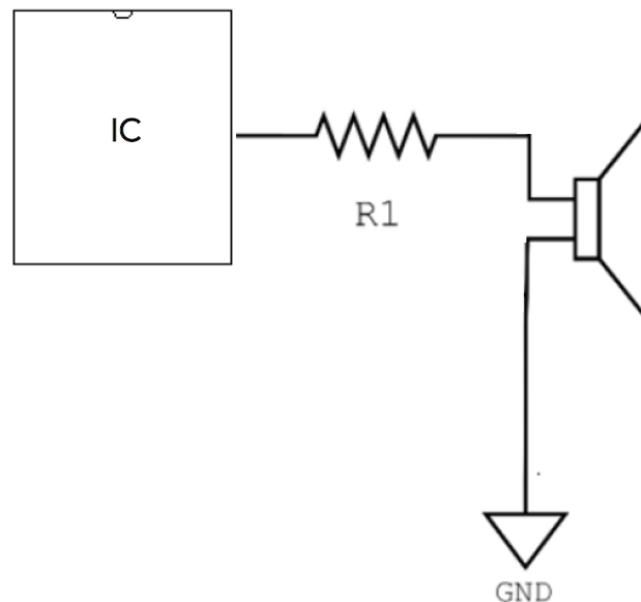

Figure4: Drive Circuit for Piezoelectric transducer using an IC
Due to its high impedance and piezoelectric property, a piezoelectric buzzer can also be directly driven from an integrated circuit (IC) (shown in Figure 4). However, for stable sound production and IC protection, it is advisable to insert a resistor in series between the IC output and the piezoelectric buzzer. Resistor value should be such that it does not exceed the maximum current rating of IC.